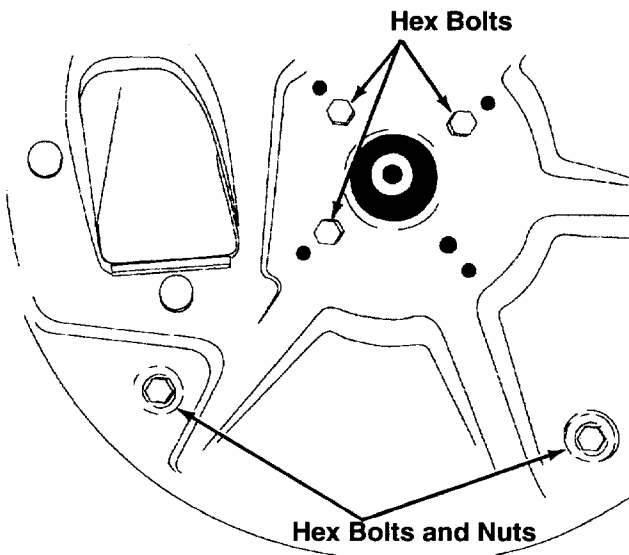

Figure 19
17. Remove the inner housing and mounting adapter by removing the five hex bolts and two hex nuts. See Figure 19.